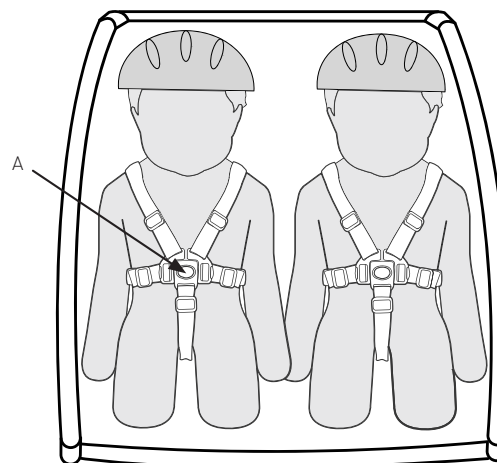

Figure 25
1. Before loading or unloading your children, set the parking brake. After loading, secure and adjust the harnesses. Snap shoulder straps & waist straps into 5-point harness buckle and adjust straps so they are secure (Figure 25). Fasten and adjust lap belt(s) to fit securely.